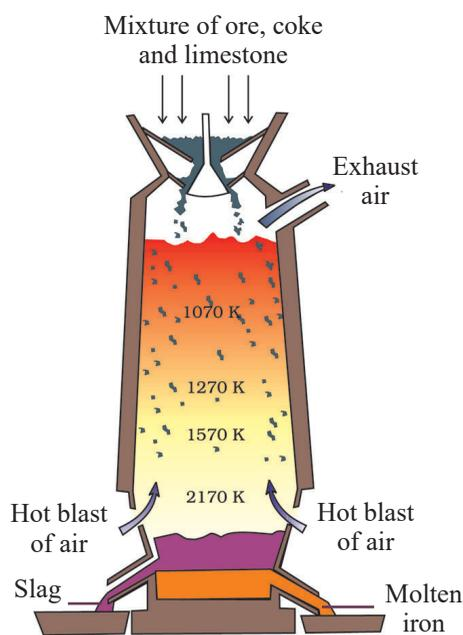

Fig. 6.5
Iron is produced in steel towers, known as blast furnaces, which are 25 to 30 meters high. Its interior is lined with bricks (Refractory bricks) capable of withstanding high temperatures (Figure 6.5). The concentrated ore mixed with limestone (CaCO_3) and coke (C) is fed from the top of the furnace via cup & cone arrangement. This mixture is called charge.